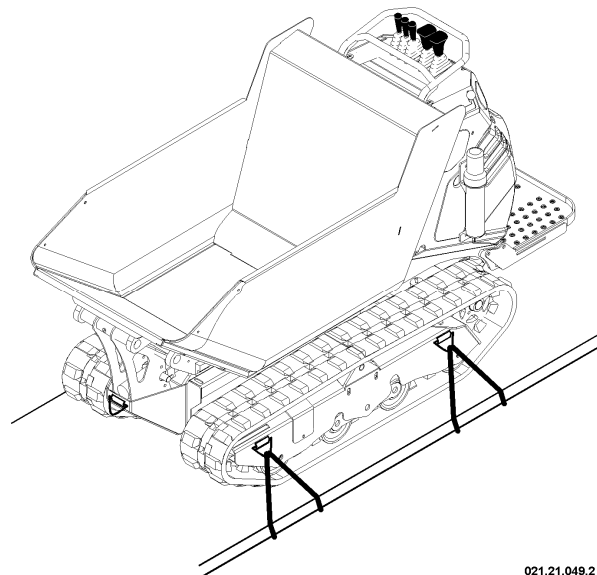

fig. 45 – Anchoring points for transport
- Fix it to the surface of the means of transport pulling down firmly, with CE compliant ropes, and always connecting to the points as indicated in the figure 45.